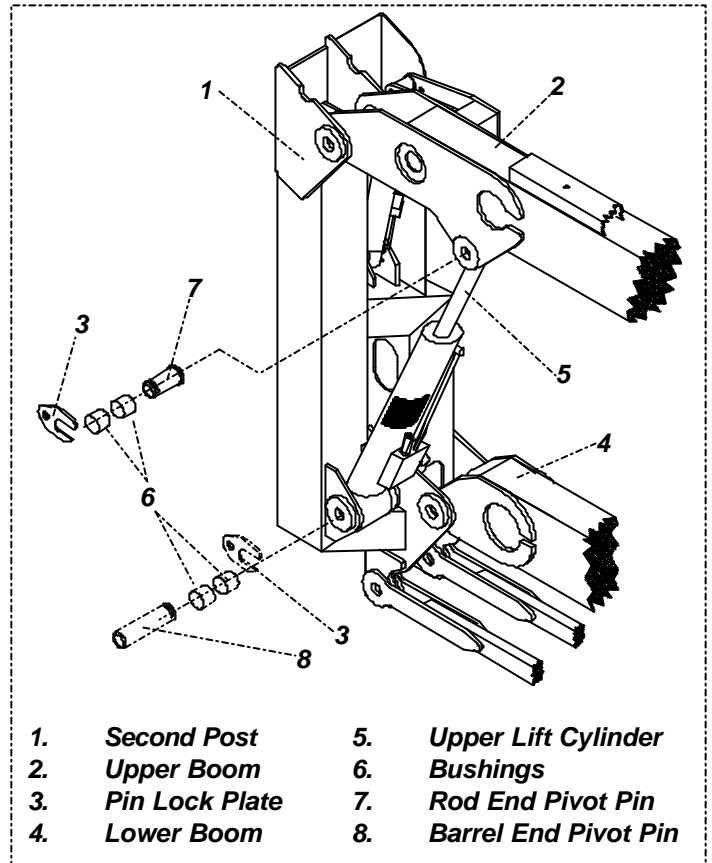

Figure 4-17: Upper Lift Cylinder
4.15 Upper Lift Cylinder (Figure 4-17)